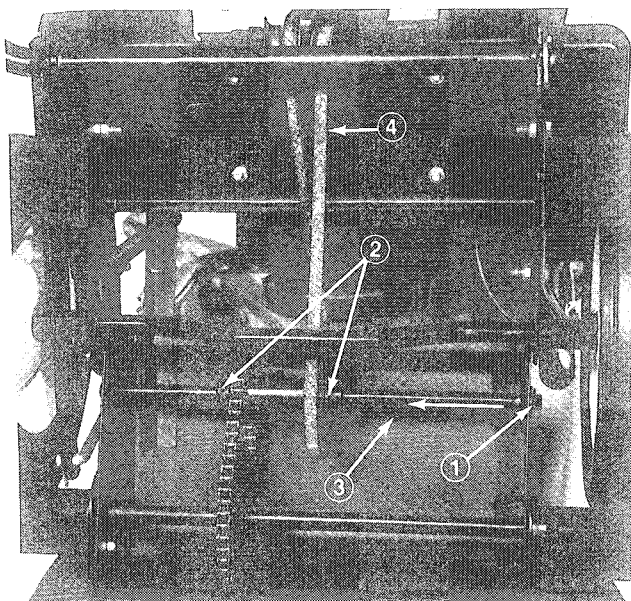

Figure 27
10. Refer to Figure 27. Tip the unit back onto the handles. ① Remove the cotter pin from the end of the shaft, loosen the setscrew in each of the collars, ② and tap the shaft over far enough ③ so the new belt can be installed. ④
IMPORTANT: The belt must be installed as shown in Figure 27 or the traction drive will run backward.